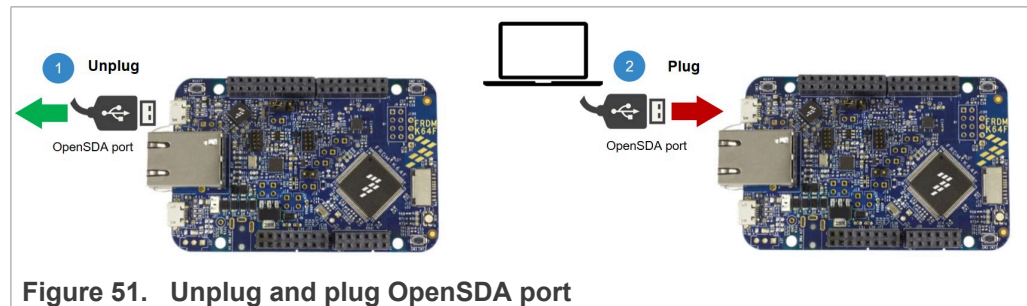

Figure 51. Unplug and plug OpenSDA port
1. Unplug and plug again the USB cable to the openSDA USB port as shown in Figure 51: